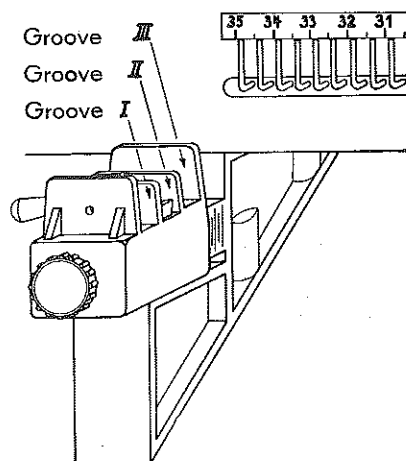

Fig 7
- B. When casting on, place the Wooden Comb into **Groove I**. (Fig. 7.)